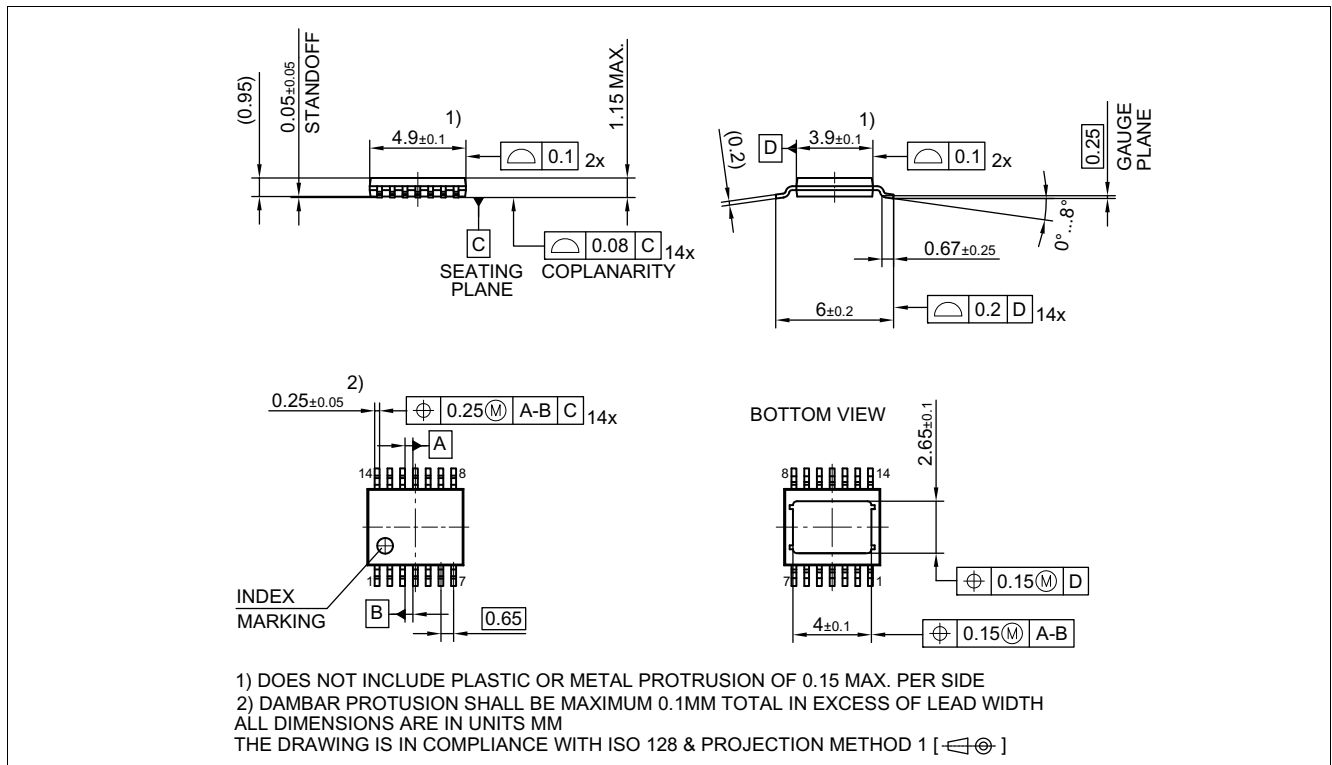
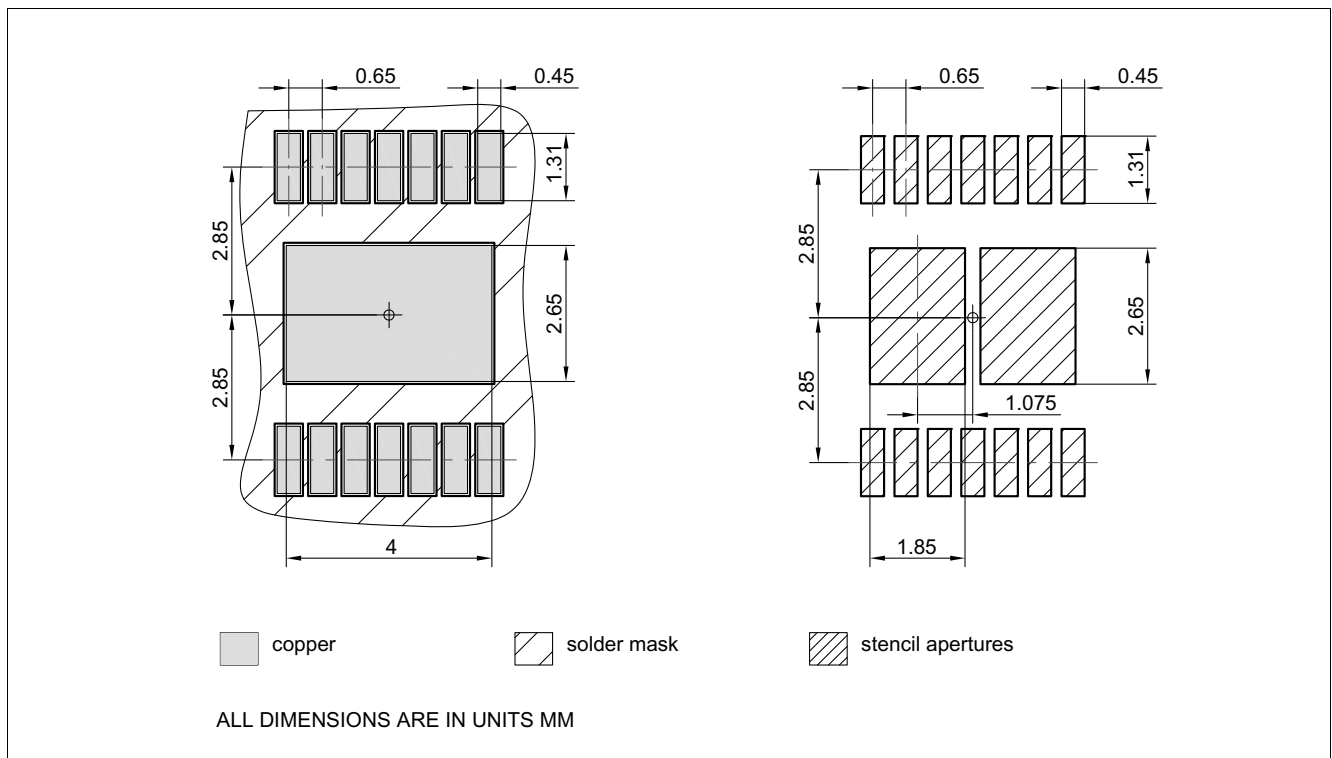

Figure 38 PG-TSDSO-14 (Thin (Slim) Dual Small Outline 14 pins) Package Outline
Figure 39 PG-TSDSO-14 (Thin (Slim) Dual Small Outline 14 pins) Package pads and stencil
1.02, 2019-02-05	<p>Figure 9, Figure 10 updated</p> <p>Page 1: updated (figure product)</p> <p>Table 22 updated (punctuation)</p> <p>Chapter 9.3, Chapter 9.3.1 updated (typo)</p> <p>Page 1: updated (Package PG-TSDSO-14-22 → Package PG-TSDSO-14)</p> <p>Figure 38 updated (PG-TSDSO-14-22 (Thin (Slim) Dual Small Outline 14 pins) Package Outline → PG-TSDSO-14 (Thin (Slim) Dual Small Outline 14 pins) Package Outline)</p> <p>Figure 39 updated (PG-TSDSO-14-22 (Thin (Slim) Dual Small Outline 14 pins) Package pads and stencil → PG-TSDSO-14 (Thin (Slim) Dual Small Outline 14 pins) Package pads and stencil)</p> <p>Table 1 updated (Parameter: Minimum Overvoltage protection ($T_J = 25\text{ °C}$) → Minimum Overvoltage protection ($T_J \geq 25\text{ °C}$))</p> <p>Table 1 updated (corrected typo in table Product Summary: $I_{VS(OFF)}$: 1 → 0.4 μA)</p> <p>Table 1 updated (Symbol: $I_{VS(OFF)} \rightarrow I_{VS(OFF)_{85}}$)</p> <p>P_6.5.22.1 updated (Symbol: $I_{VS(OFF)} \rightarrow I_{VS(OFF)_{85}}$)</p> <p>P_6.5.22.2 updated (Symbol: $I_{VS(OFF)} \rightarrow I_{VS(OFF)_{150}}$)</p>